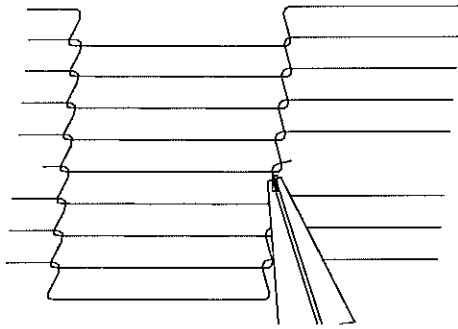

Figure 4-29.
6. Reconnect the inside master links (Figure 4-29.)